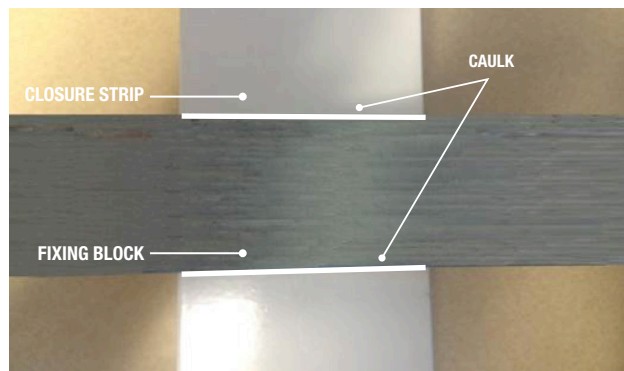

Figure 27. Sealing Fixing Block/Closure Strip
Step 25: Apply thin layer of caulking to seal between fixing block and closure strip (**Figure 27**).